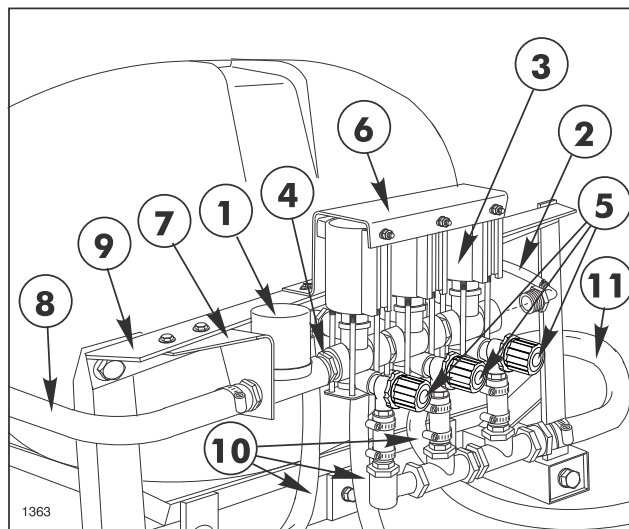

FIG. 13
1. Apply thread sealer and assemble the Control Valve, close nipple, and Solenoid Valve Assembly as shown in FIG. 13.
3. Slide head of M6 x 16 mm hex hd. Screw to the top of the mounting groove in each Solenoid Valve. Assemble Solenoid Valve Assembly to the Solenoid Mounting Bracket using three (3) M6 x 16 mm screws just installed. Secure Solenoids with three (3) M6 hex nuts and lockwashers. See FIG. 13.
4. Install Solenoid Valve and Bracket Assembly to the Cross Support. Secure with two (2) flange cap screws and Hex Flange Nuts.
5. Install Control Valve Bracket to Cross Support. Secure with two (2) flange cap screws and Hex Flange Nuts. (Do not tighten). See FIG. 13.
9. Insert 1" Quick Coupler into end of 1" x 29" Bypass Hose and secure with hose clamp. Attach other end of hose to the hose barb at the bypass manifold and secure with hose clamp. See FIG. 13.
11. Apply thread sealer and install 1/4" male tube fitting into the reducer bushing in the end of the Solenoid Valve Assembly. Insert Gauge Tube in fitting and tighten fitting. See FIG. 13.